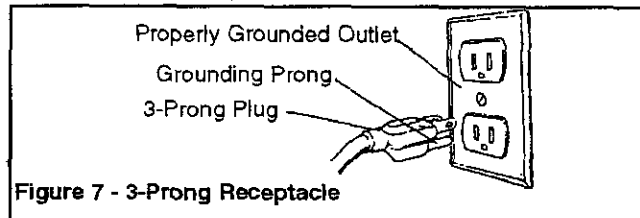

Figure 7 - 3-Prong Receptacle
Refer to Figures 7, 8 and 9, pages 4 and 5.
- This tool is equipped with an approved 3-conductor cord rated at 150V and a 3-prong grounding type plug (Figure 7) for your protection against shock hazards.
- Grounding plug should be plugged directly into a properly installed and grounded 3-prong grounding-type receptacle, as shown (Figure 7).
The sander is assembled with motor and wiring installed. The electrical wiring schematic is shown in Figure 7.